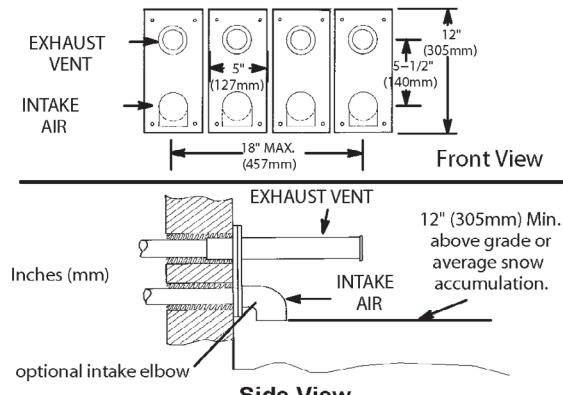

Figure 41.
- A multiple furnace installation may use a group of up to four terminations assembled together horizontally, as shown in Figure 41.